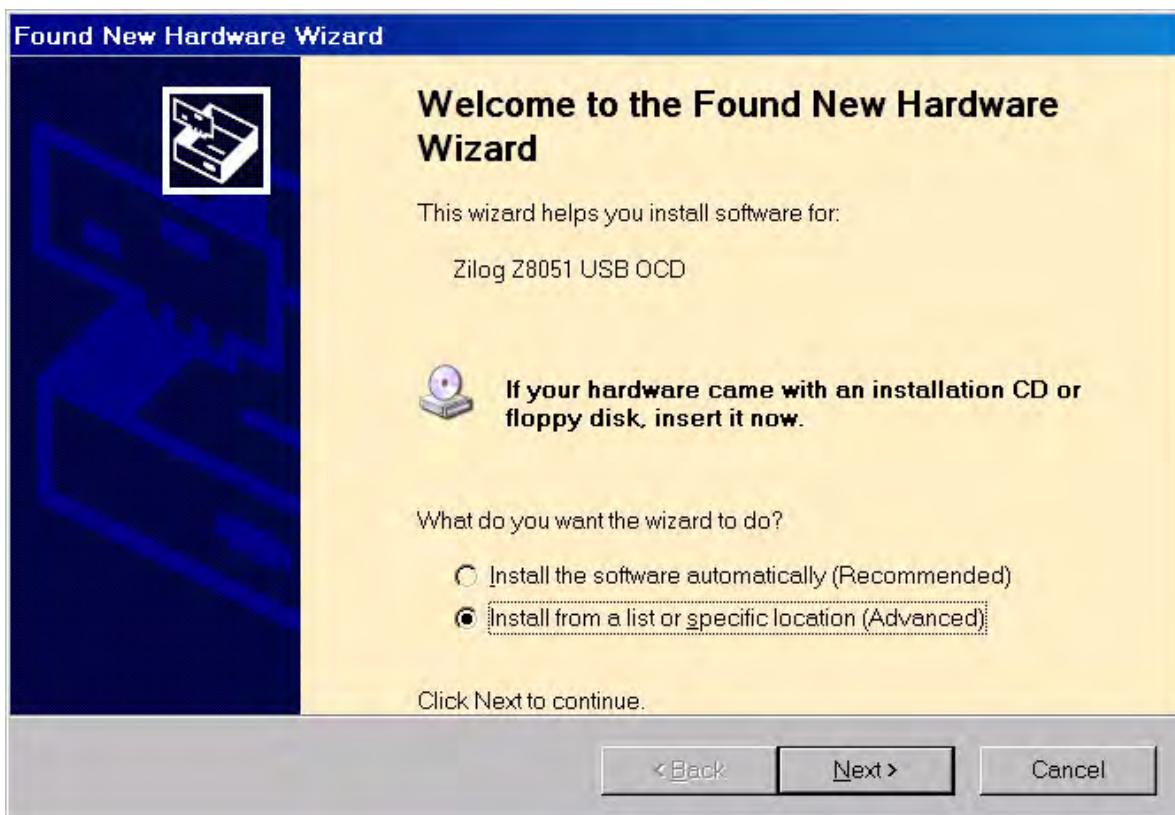

Figure 95. The Found New Hardware Wizard Welcome Screen
2. After the PC detects the new hardware, it will display the **Found New Hardware Wizard** dialog box, shown in Figure 95. Select **Install from a list or specific location (Advanced)**; then click **Next**.
► **Note:** On some installations, the Found New Hardware screen shown in Figure 95 may also display the text string, Zilog Z8051 USB OCD - No Firmware. This occurrence is normal and can be disregarded.